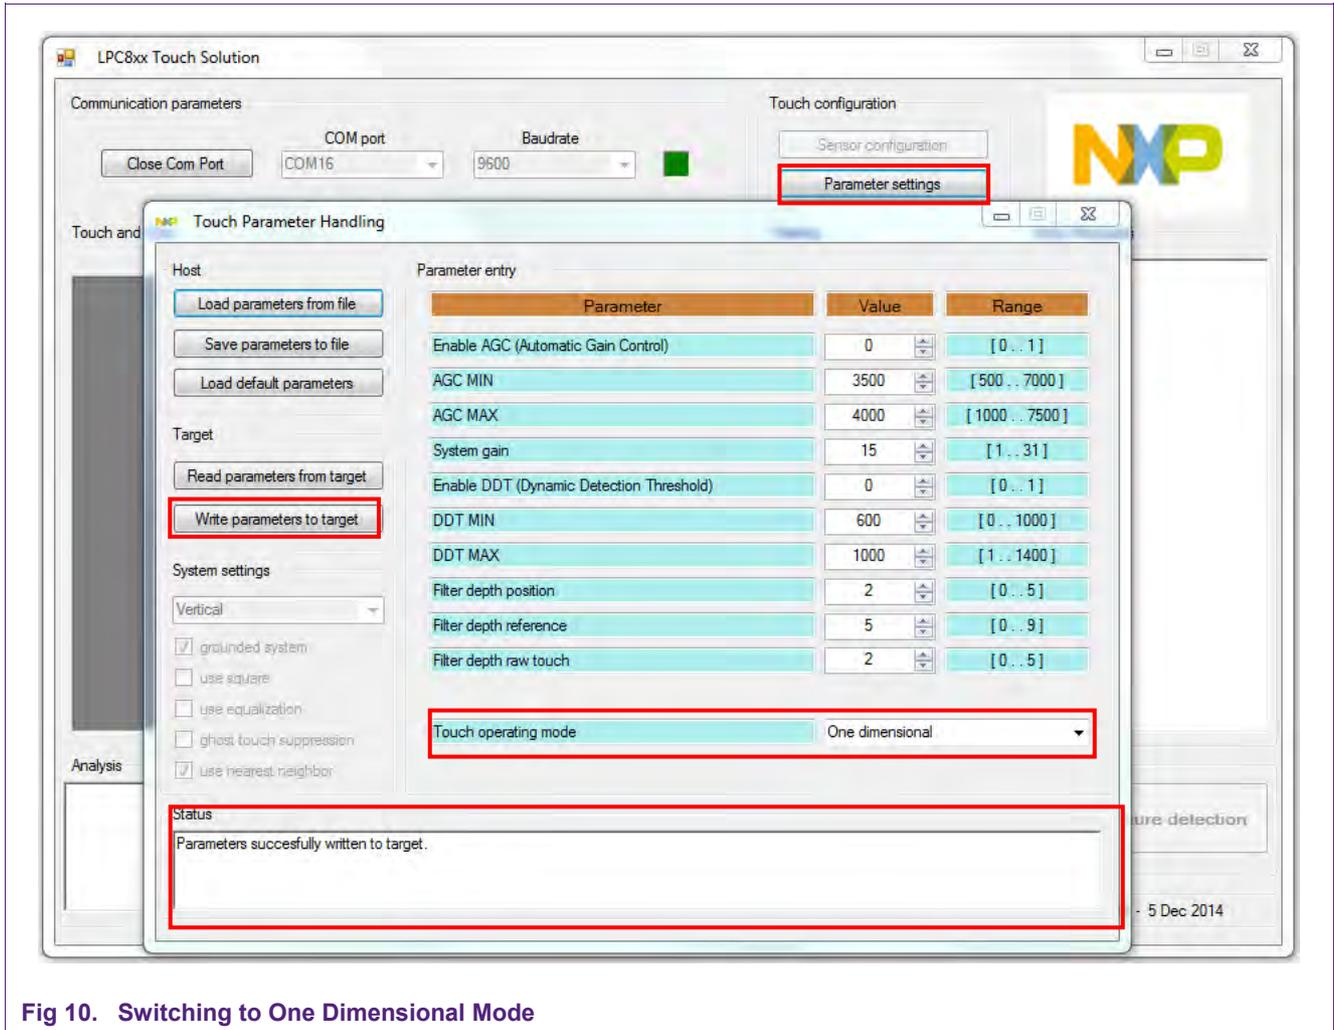

Fig 10. Switching to One Dimensional Mode
- One can change the mode to **One dimensional mode** (Keys/Button Mode) by selecting “One dimensional” in the drop down for Touch operating mode. See Fig 10.